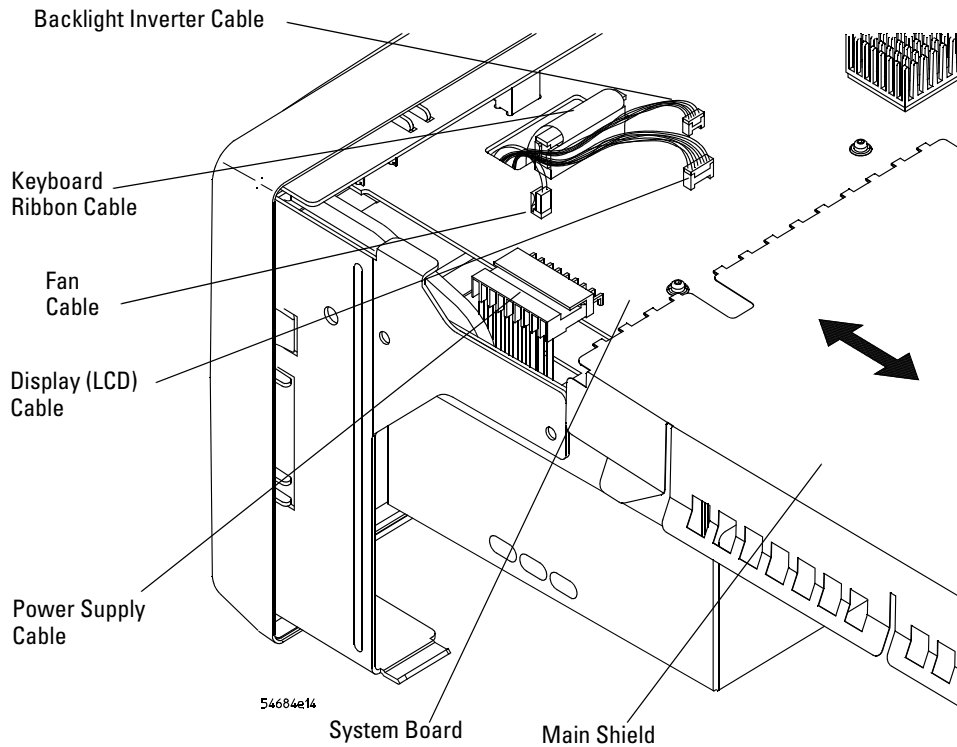

Figure 41 Preparing to remove the system board
- f** Ensure that the backlight, fan, and LCD cables are routed to the left of the keyboard ribbon cable as shown in Figure 41 on page 113.